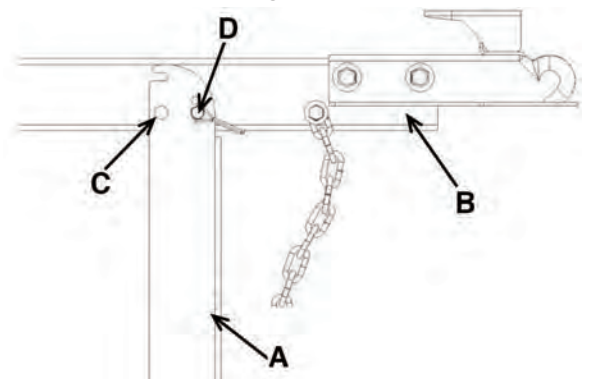

Figure 3
- 1) Connect an outrigger leg (A) Fig.3 to the front of towbar (B) using a hex. bolt and a nylon hex. nut (C) (already in place).
- 3) Insert locking pin (D) to lock outrigger leg in vertical position. The next step requires the outrigger leg to be locked in vertical position as shown (Fig.3).